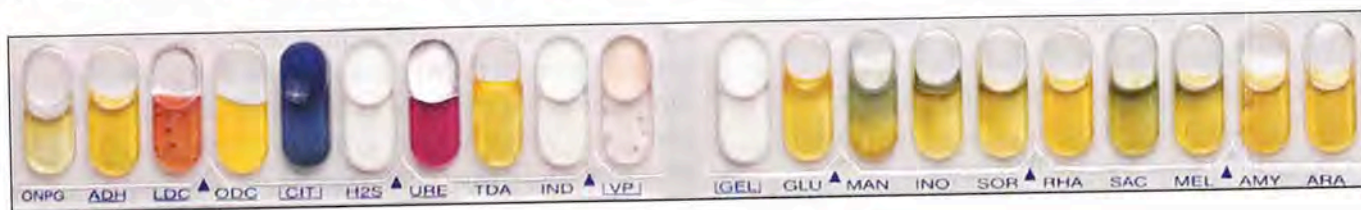

FIGURE 47.5 API Test Strip Results for Bacterium Isolated from Case Study Patient's Urine •
You retrieve the API test strip from the incubator, add reagents to the cupules per the manufacturer's specification, and observe the results in Figure 47.5.
- 14** Finally, you're ready to analyze the test results and determine the bacterium's identity. Observe the API test results (Fig. 47.5) and use your completed table (Table 47.1) to fill out the following data recording sheet.